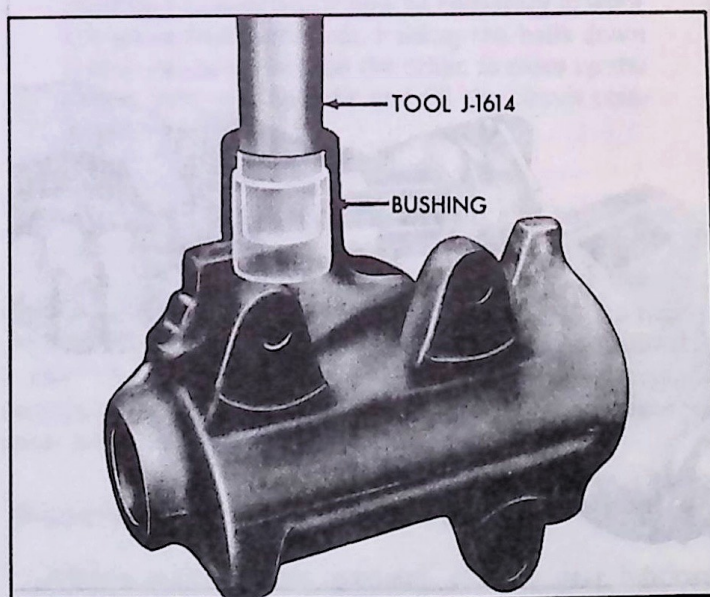

Fig. 8—Removing Pitman Shaft Bushing Using Tool J-1614—Typical
1. Support the steering gear housing in an arbor press and press the pitman shaft bushing (2 bushings on Corvette and G10-30 Series Trucks) from the housing using Tool J-1614, inserted from the lower end of the housing (fig. 8).